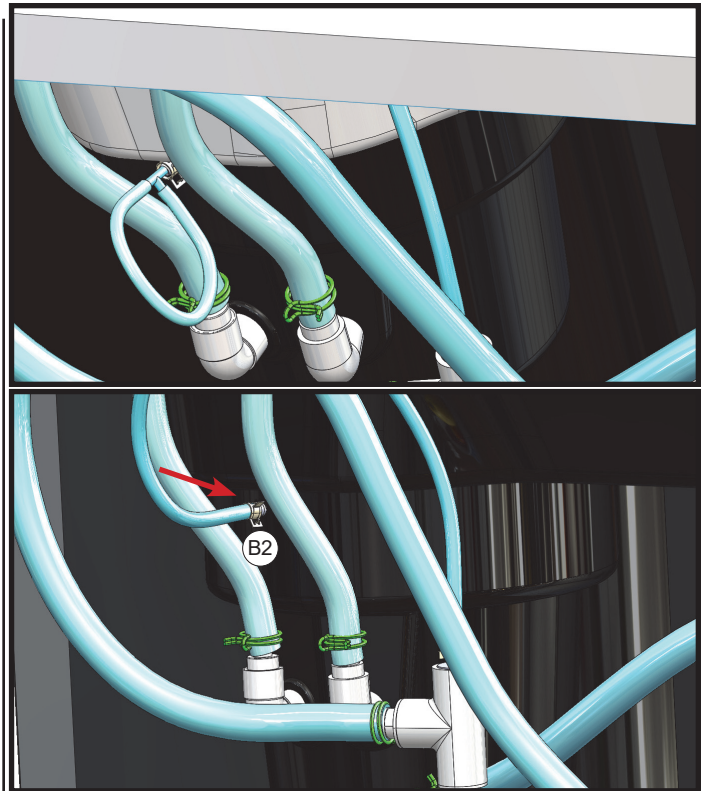

Figure 14.2
2. Locate plug on filter bucket and disconnect it. Then locate connection (B2) and connect it to filter bucket in the same spot where the plug was disconnected from (Figure 14.2).